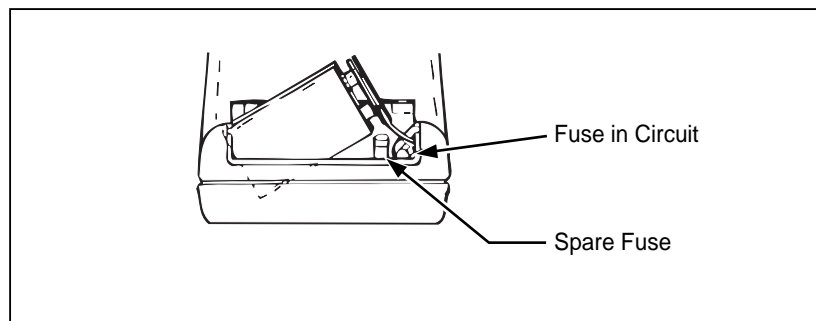

Figure 2-2. Battery Removal and Fuses
5. Slide the battery out of the compartment as shown in Figure 2-2.
There are two fuses located at the right side of the battery compartment (refer to Figure 2-2 or examine your instrument). The fuse at the far right is F1. Fuse F1, 2A/250V, protects the current input from an input overload. The other fuse is a spare fuse for F1. When you purchase your instrument, F1 should be installed and the spare fuse should be in one of the two slots next to it. The larger slot is for the American-style fuse, and the smaller slot is for the European-style fuse (either style fuse fits in the installation compartment).